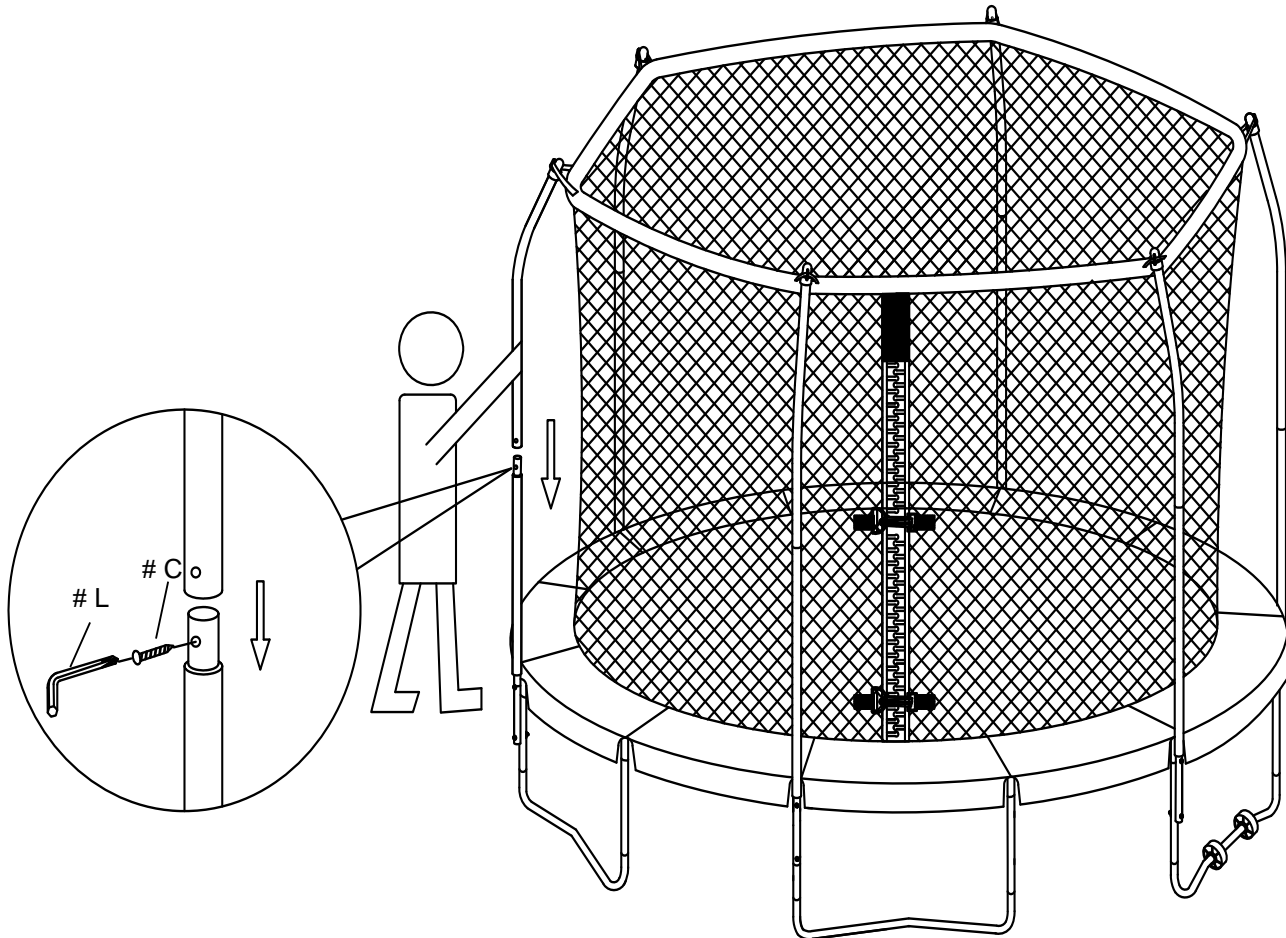

FIGURE 20
D. Attach UPPER FRAME TUBE WITH FOAM (# A) to LOWER FRAME TUBE WITH FOAM (# B), secure by using SELF-LOCKING SCREW (# C) with ALLEN WRENCH (# L) as shown in FIGURE 20.